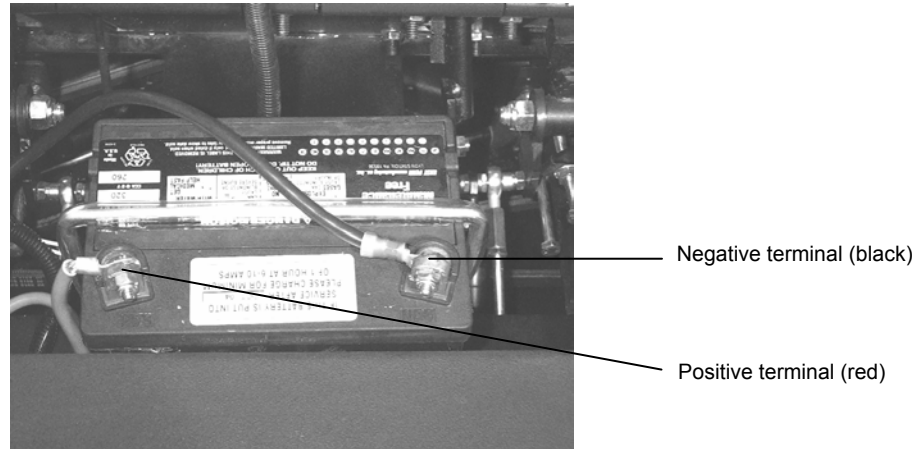

Figure 2. Battery with cables attached
5. Insert the bolt to connect the black cable, and screw on the nut securely (*Figure 2*).